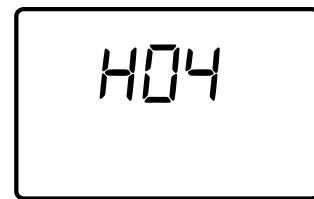

Figure 15-7: Home Screen with Error
6. If there is a problem, display will show error code (Figure 15-7). Refer to label on access door and Section 19 troubleshooting to diagnose error.